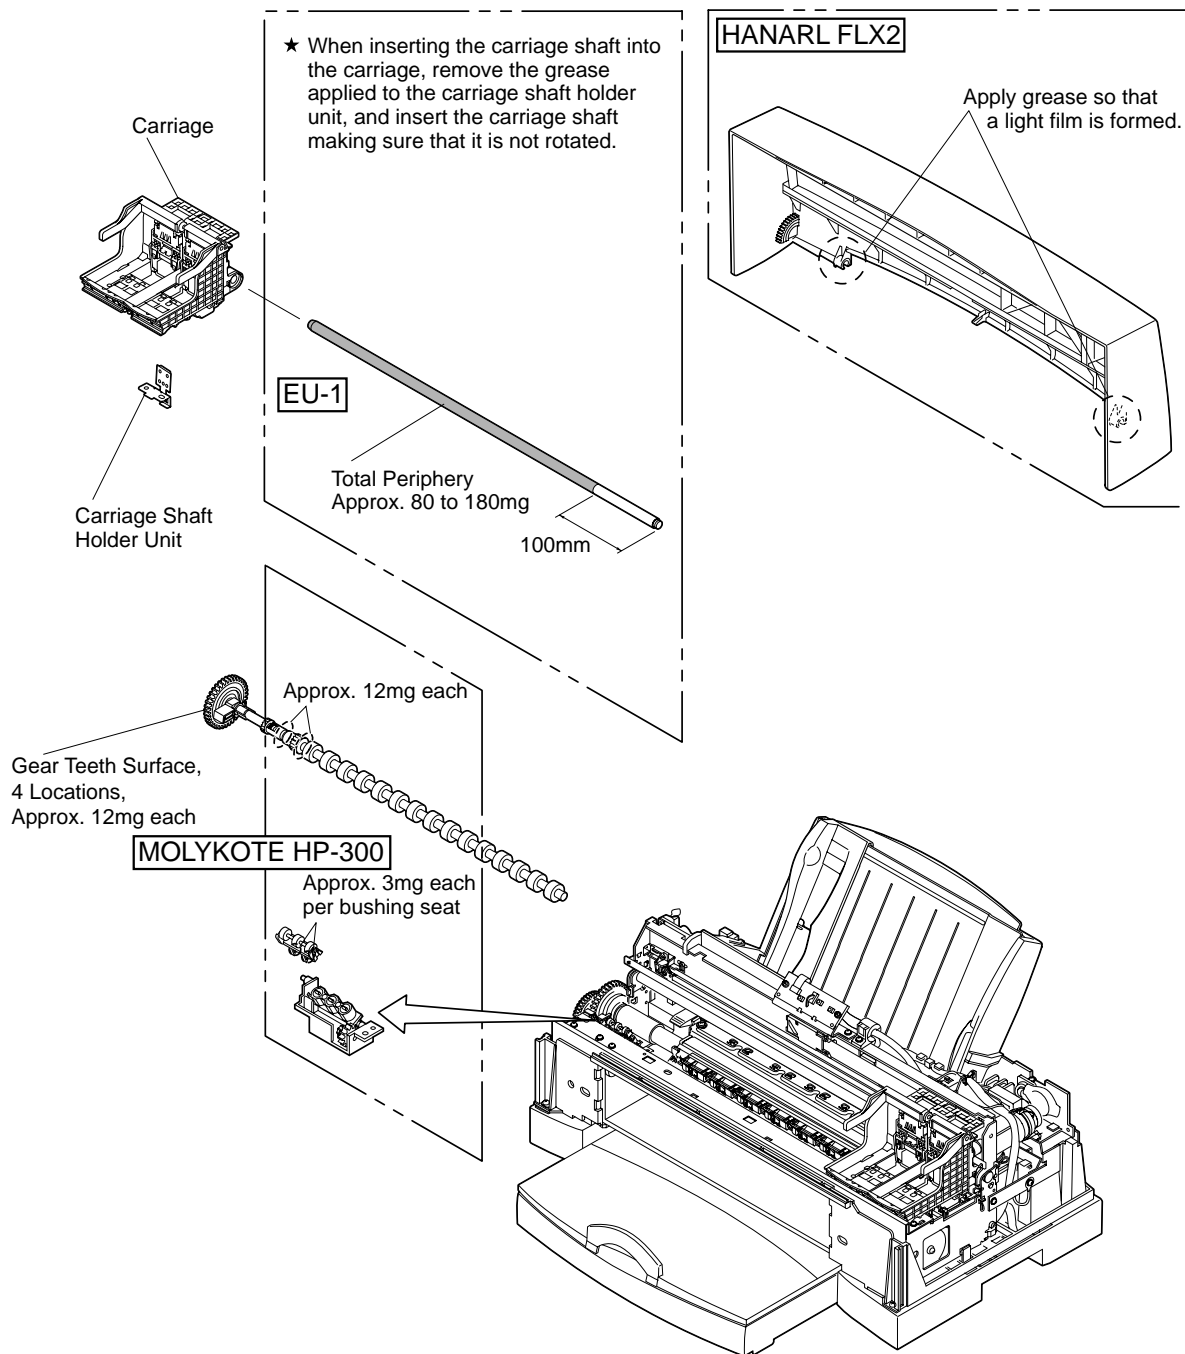

Figure 5-1 Grease Application Sections (1)
| Grease (MOLYKOTE HP-300) (QY9-0035-000) | For application to specified locations (see Figure 5-1 Grease Application Sections (1) (page 5-3) .) |
| Grease (HANARL FLX-2) (QY9-0036-000) | For application to specified locations (see Figure 5-1 Grease Application Sections (1) (page 5-3) .) |
| Grease (EU-1) (QY9-0037-000) | For application to specified locations (see Figure 5-1 Grease Application Sections (1) (page 5-3) .) |